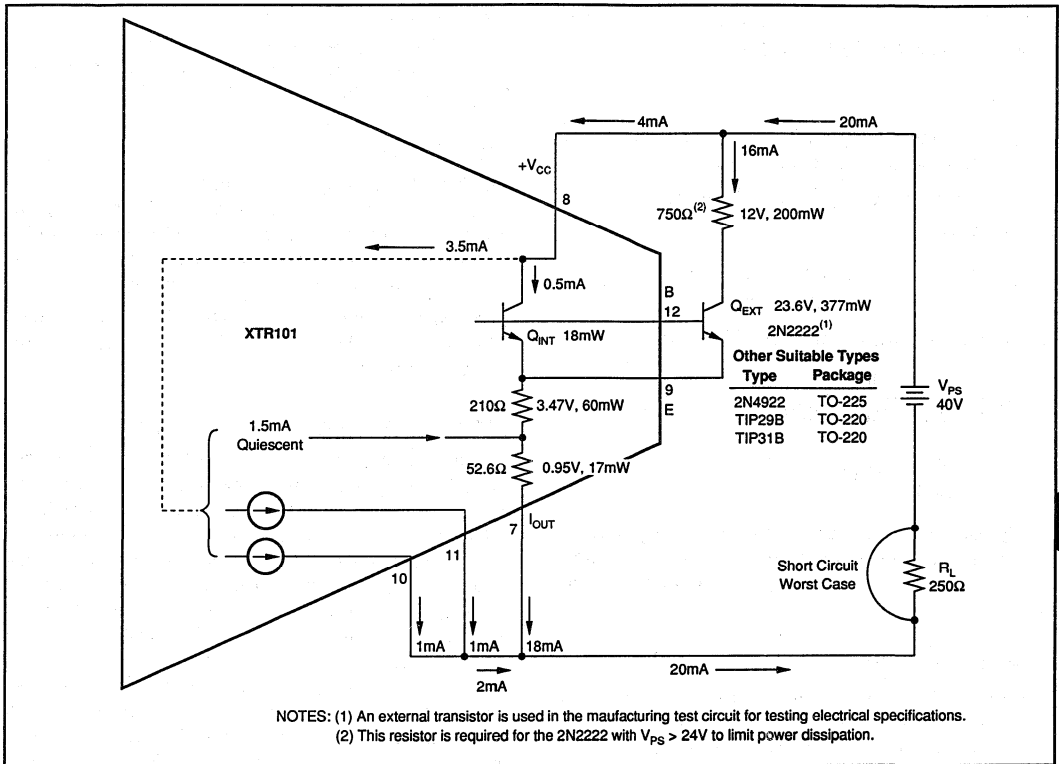

FIGURE 2. Power Calculation of XTR101 with External Transistor.
The optional external transistor, when used, is connected in parallel with the XTR101's internal transistor. The purpose is to increase accuracy by reducing heat change inside the XTR101 package as the output current spans from 4-20mA. Under normal operating conditions, the internal transistor is never completely turned off as shown in Figure 2. This maintains frequency stability with varying external transistor characteristics and wiring capacitance. The actual "current sharing" between internal and external transistors is dependent on two factors: (1) relative geometry of emitter areas and (2) relative package dissipation (case size and thermal conductivity). For best results, the external device should have a larger base-emitter area and smaller package. It will, upon turn on, take about $[0.95 (I_o - 3.3\text{mA})]\text{mA}$. However, it will heat faster and take a greater share after a few seconds.
tions shown in Figure 2. Thus the 2N2222 will safely operate below its 400mW rating at the upper temperature of +85°C. Heat sinking the 2N2222 will result in greatly reduced accuracy improvement and is not recommended.